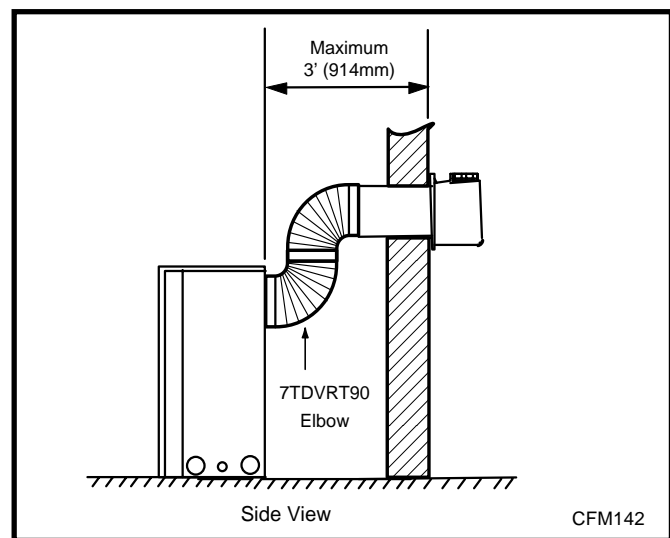
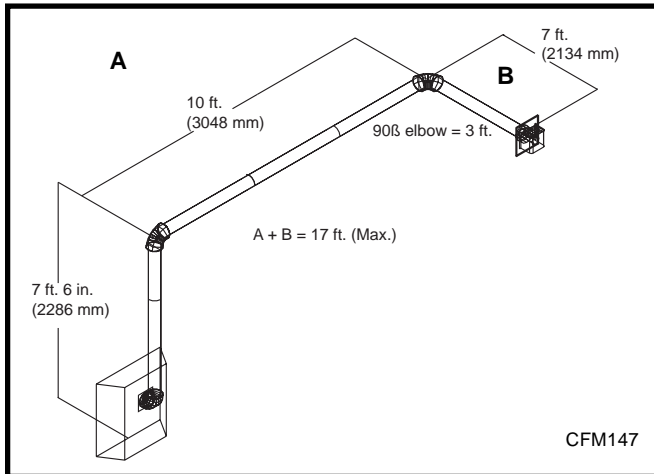

Fig. 18 Maximum horizontal vent run before termination.
Fig. 19 Dimension A plus B must not be greater than 17' (5.2m).
- If a 90° elbow is used in the horizontal vent run (level height maintained) the maximum horizontal vent length is reduced by 36" (914 mm). (Fig. 18) This does not apply if the 90° elbows are used to increase or redirect a vertical rise. (Fig. 19)